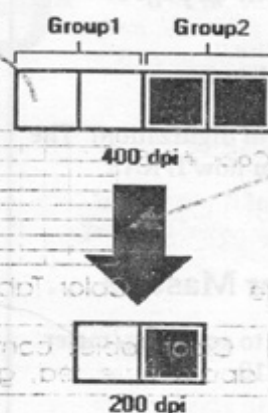

Figure 7
5. An "Or" function algorithm is applied to the 400 dpi data. Any pixel found in groups of two pixels is determined to be significant data and is written to disk (400/2=200 dpi). (Refer to Figure 7)